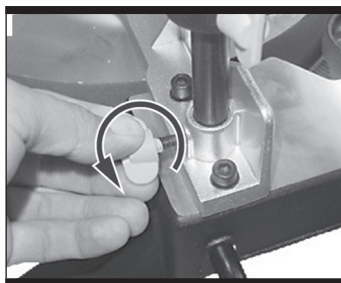

Fig 5
3. Make sure that the vertical clamp securing screws are tightened. See Fig5.